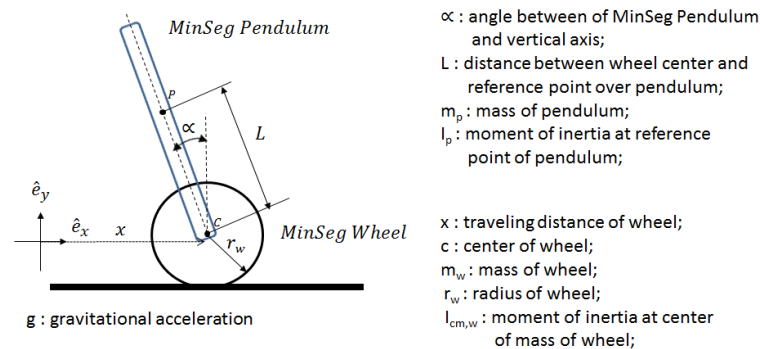

Figure 2 Mathematical model of MinSeg around the zero-equilibrium system.
Figure 2 depicts the motion of a MinSeg over flat ground. In our first homework assignment, the equation of motion was given as (1).
Step 2 Measure the physical parameters of your MinSeg as shown in Figure 2 (find creative ways to measure the weight in grams (home kitchen scale, post office, grocery store, etc.) Create a table to list the values of your measurement (SI unit). A set reference values of (k_t, K_b, R) are given as $(k_t, K_b, R) = (0.3233 \text{ Nm/A}, 0.4953 \text{ Vs/rad}, 5.2628 \text{ ohms})$.